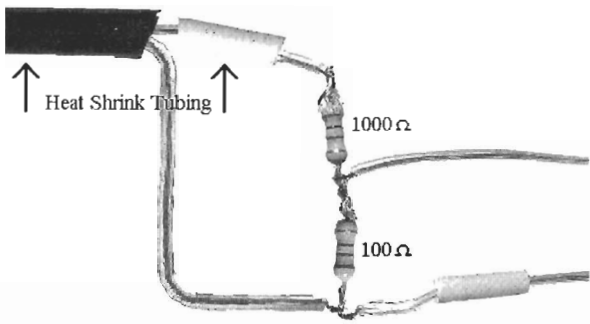

Figure L28-6
- Slide skinny heat shrink tubing onto each line before you solder. The heat shrink tubing is easier to use than tape. The layout is shown here in Figure L28-6.